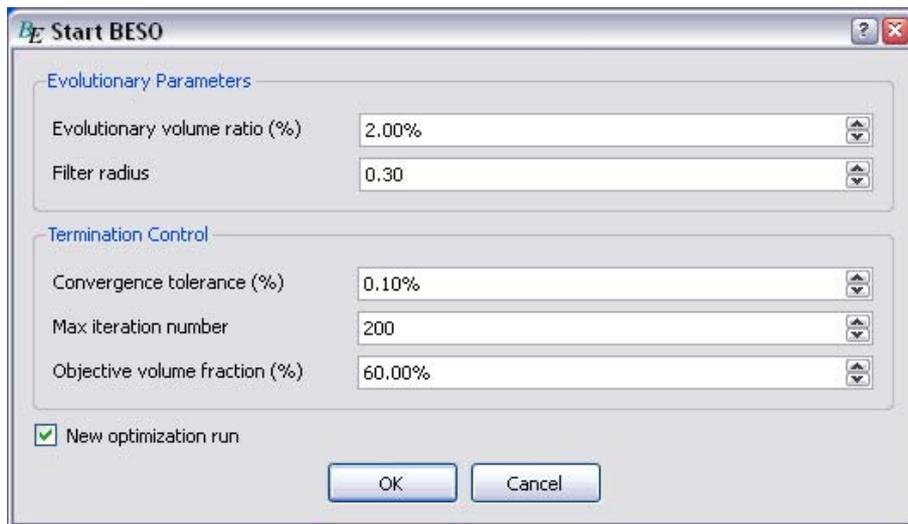

Figure 6 The BESO parameters used in this example.
- Click the **BE** button in the **Draw/Run Toolbar**. Enter (or accept) the parameters in the “Start BESO” dialogue. The parameters include evolutionary volume ratio (ER), filter radius (r_{min}), convergence tolerance τ , maximum iteration number and the objective volume fraction.
- Make sure the “New optimization run” checkbox is checked. Now the “Start BESO” dialogue shown in Figure 6 will appear.